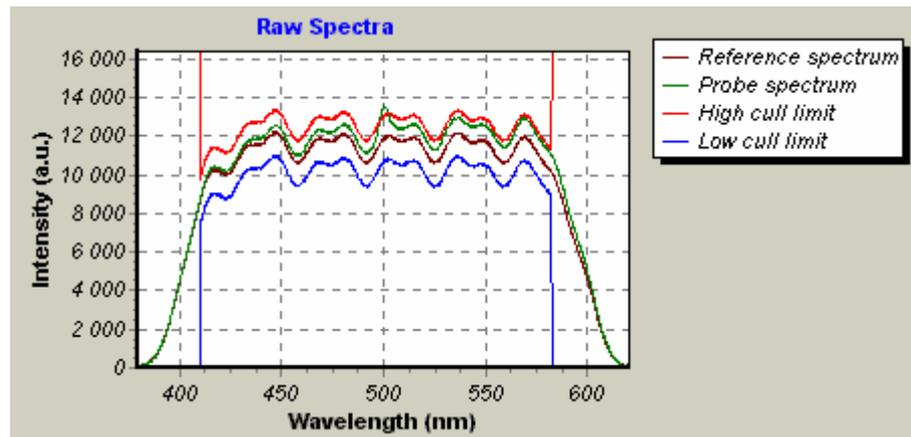

Fig. 4. The chart.
**ExciPro** uses charts to display data series on a screen. Data series may contain acquired data or some special data used to control acquisition process. An example of chart in **ExciPro** window is shown in Fig. 4.